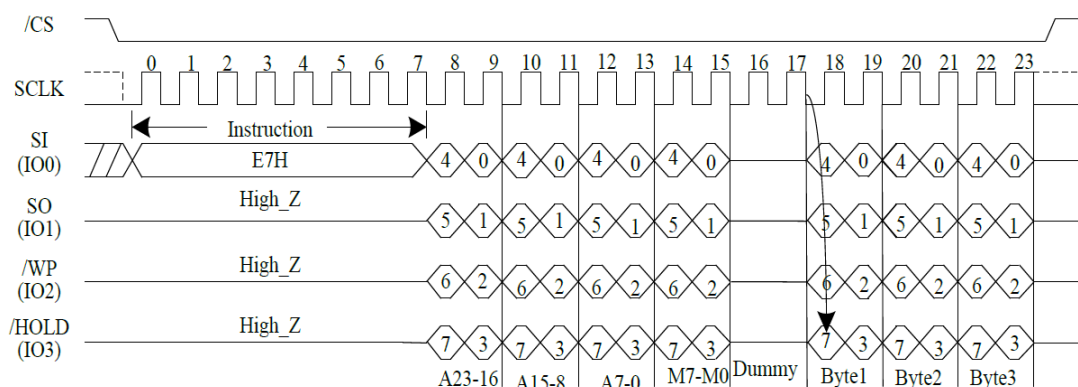

Figure15. Quad I/O Word Fast Read Sequence Diagram (Initial command or previous (M5-4)≠ (1,0),SPI mode only)
The Quad I/O Word Fast Read instruction is similar to the Quad Fast Read instruction except that the lowest address bit (A0) must equal 0 and 2-dummy clock. The instruction sequence is shown in the followed Figure 15 the first byte addressed can be at any location. The address is automatically incremented to the next higher address after each byte of data is shifted out. The Quad Enable bit (QE) of Status Register (S9) must be set to enable for the Quad I/O Word Fast Read instruction.